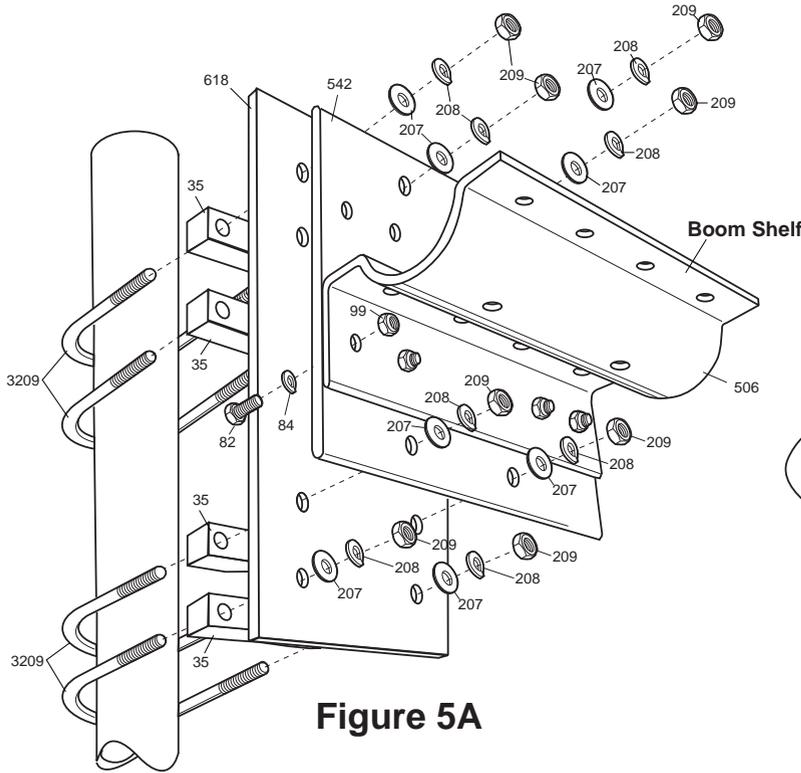

Figure 5A
Reference Figures 5A and 5B for assembly of boom to mast clamp. Required hardware is listed in the Boom to Mast Clamp Assembly Parts List. Form the boom shelf by attaching the lower boom bracket (506) to the mast plate (542). Attach mast plates (542 & 618) to mast using U-bolts (3209) and V-blocks (35).